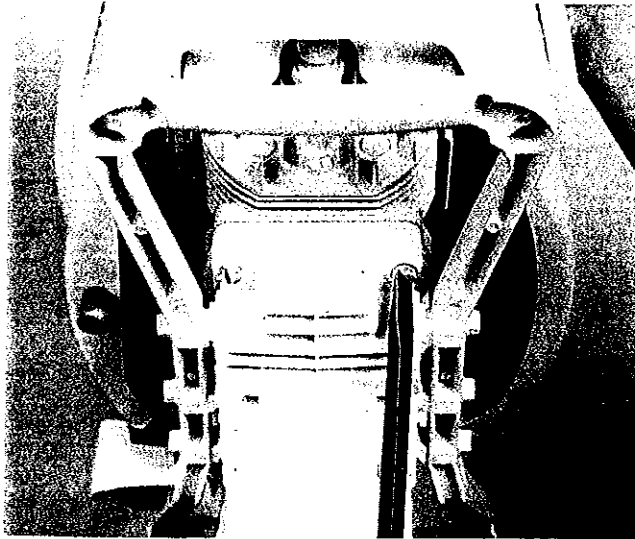

Figure 4
- E. Separate the engine assembly from the column assembly by removing the six fillister head screws (outboards manufactured in 1976 use four hex nuts and two pan head screws) securing the upper adaptor plate to the column (Figure 4).